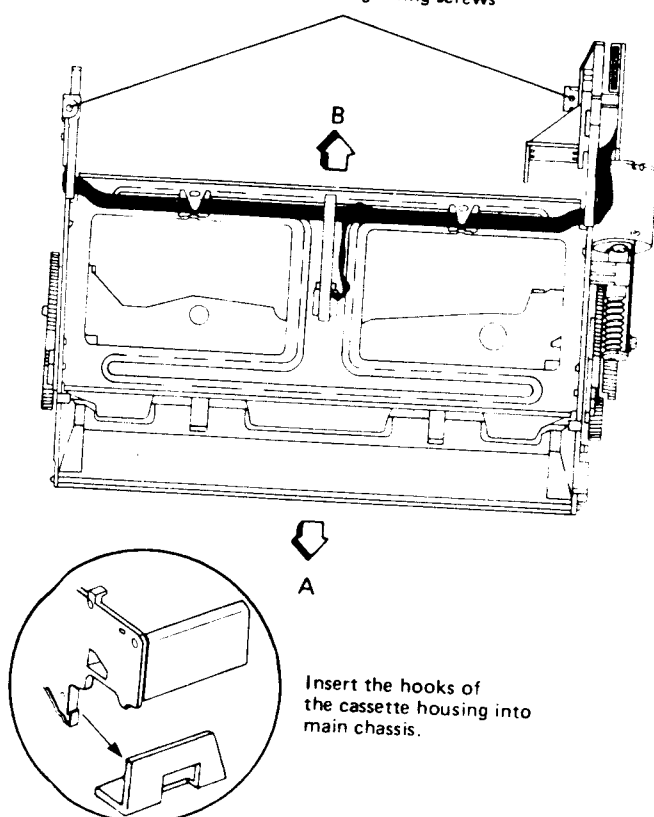

Figure 1-4.
4. Shift the cassette housing toward the arrow $\downarrow$ B direction shown in Fig. 1-4 and take it out upwards..